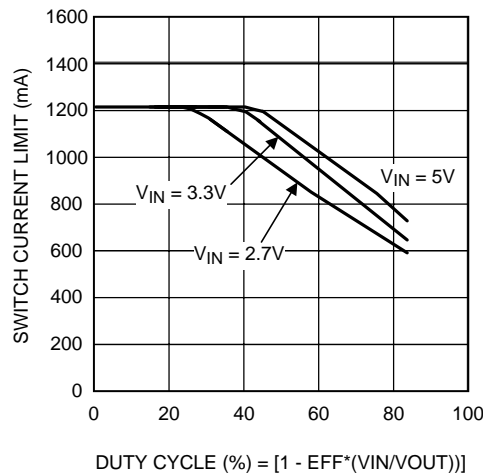

Figure 15. Switch Current Limit vs Duty Cycle
- (1) Switch current limit is dependent on duty cycle. Limits shown are for duty cycles ≤ 50%. See Figure 15 in Application Information – MAXIMUM SWITCH CURRENT section.
The maximum FET switch current available before the current limiter cuts in is dependent on duty cycle of the application. This is illustrated in Figure 15 below which shows typical values of switch current as a function of effective (actual) duty cycle: